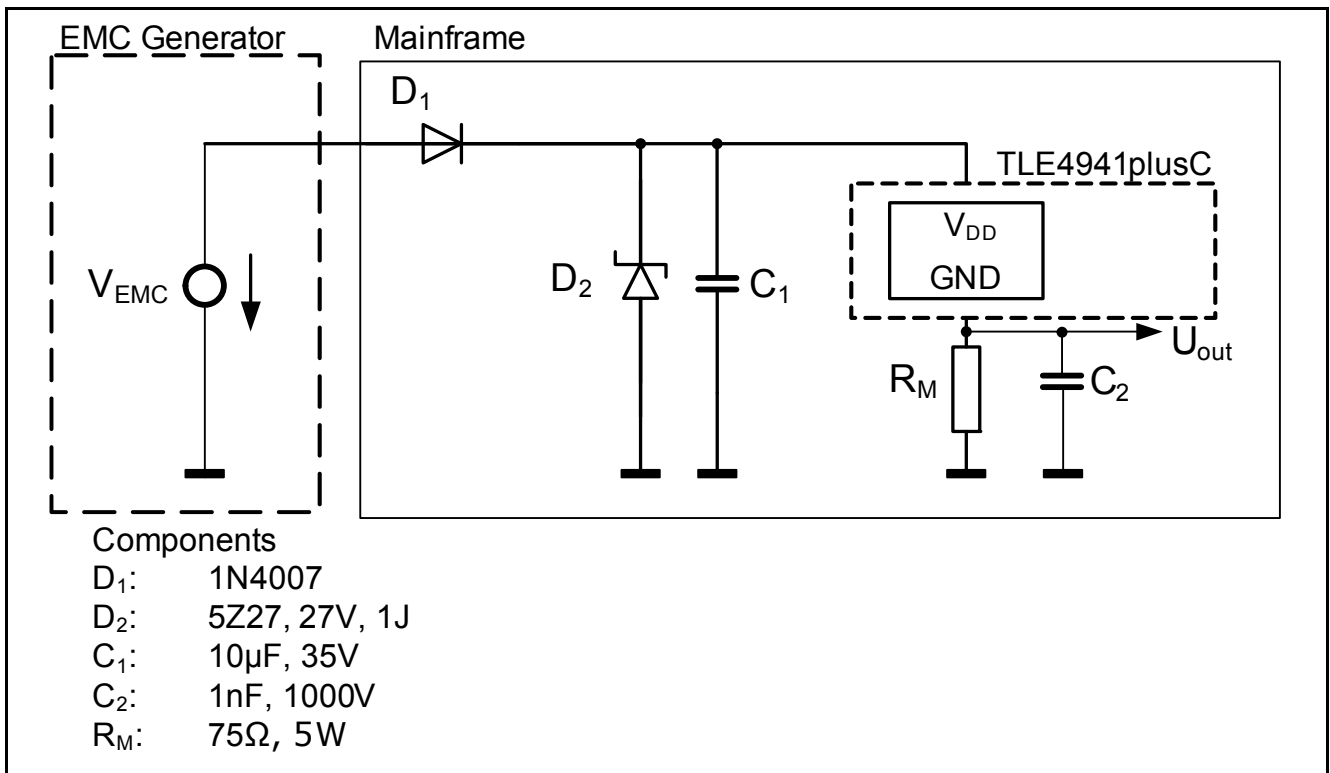

Figure 17 EMC Test Circuit
**Ref. ISO 7637-3 Release 19952); EMC test circuit (figure 17)**
**Ref. ISO 11452-33); EMC test circuit (figure 17), measured in TEM-cell**